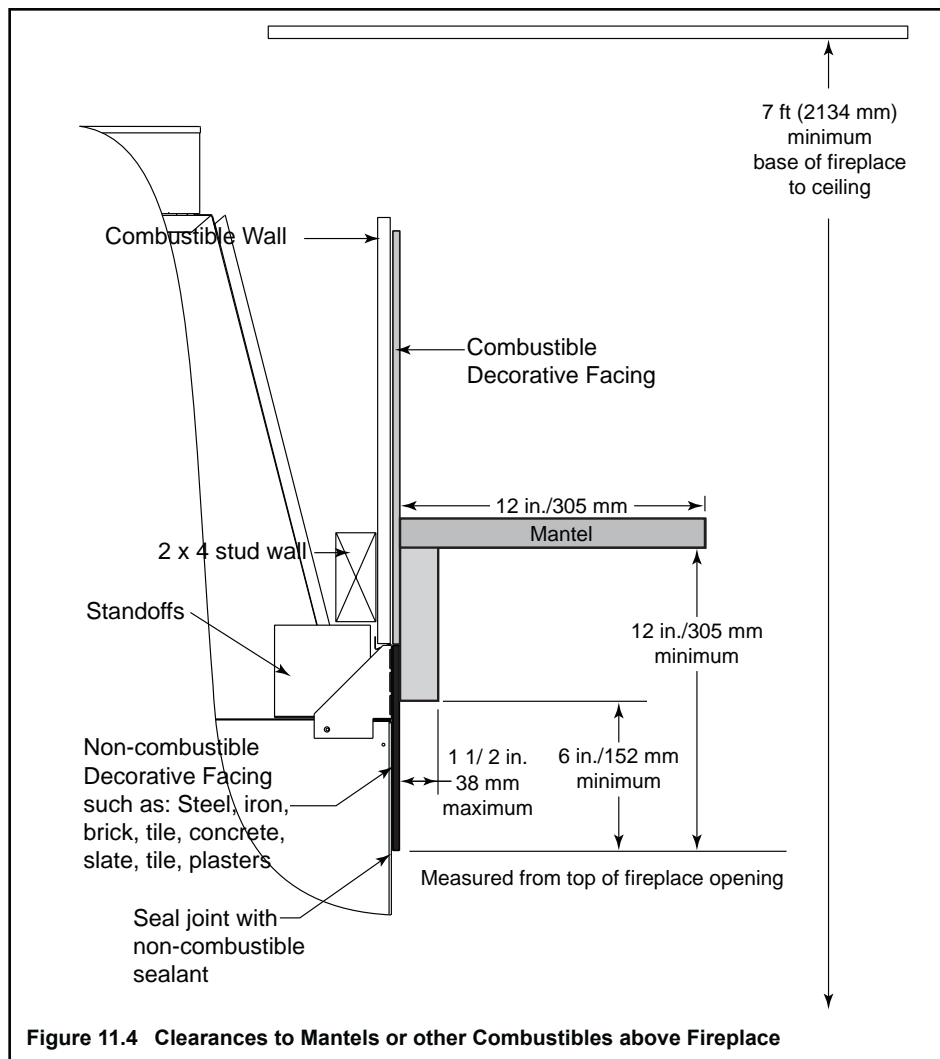

Figure 11.4 Clearances to Mantels or other Combustibles above Fireplace
- Refer to shaded areas of Figure 11.4 for locations and dimensions of a combustible mantel.